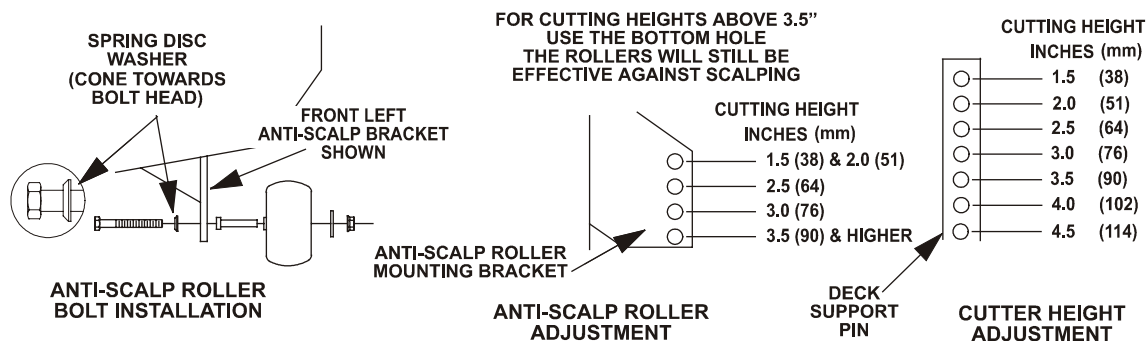

FIGURE 11
- b) Install hairpin clips in the holes for the desired cutting height (See Figure 11).
c) Adjust anti-scalp rollers For Normal Operating Conditions. Place rollers in one of the positions shown in Figure 11. Rollers will maintain 3/4 in. (19 mm) clearance to the ground to minimize gouging and roller wear or damage. **For Maximum Deck Flotation**, place rollers one hole position lower. Rollers should maintain 1/4 in. (6.4 mm) minimum clearance to ground. **Do Not** adjust rollers to support the deck. Be sure roller bolts and nuts are installed with the spring disc washer between head of the bolt and mounting bracket. **Torque to 40-45 ft-lbs., or loss of roller may result.**
d) When operating in extremely rough conditions it may be necessary to position the anti-scalp rollers one or two holes higher than described in "c" to prevent damage to the rollers and/or bolt failure (See Figure 11).